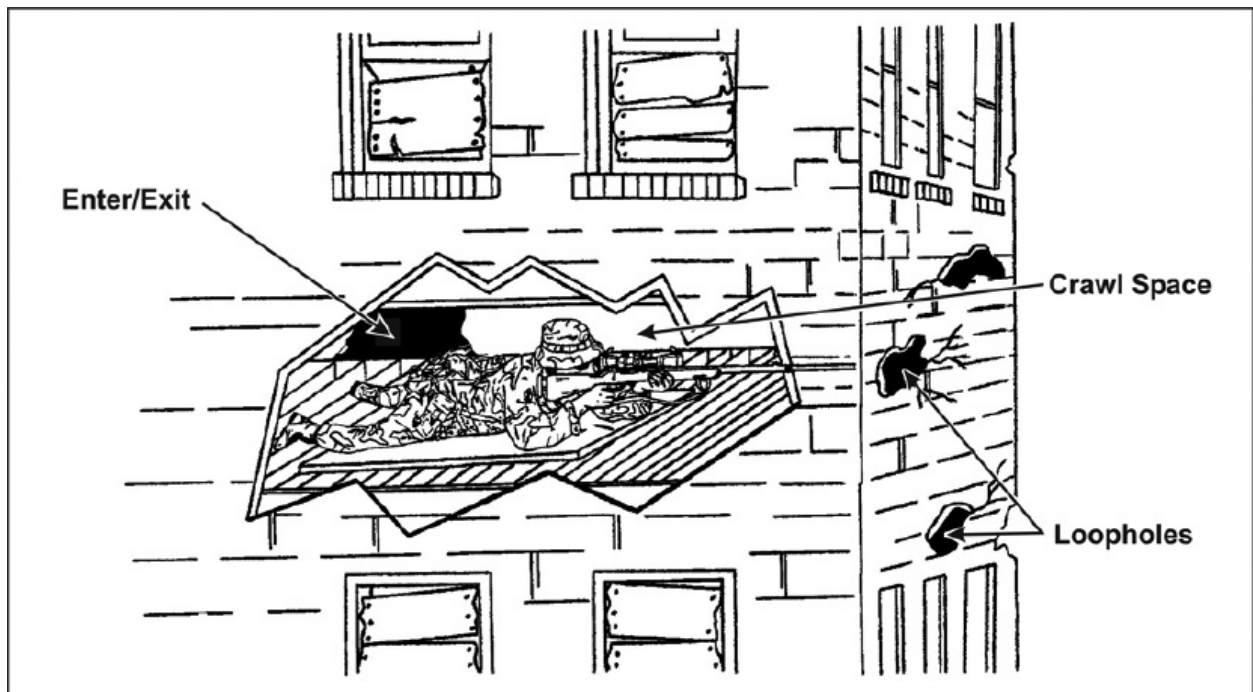

Figure 6-3. Crawl space hide
- *Crawl Space Hide.* The sniper team builds this position into the space between floors in multistory buildings (Figure 6-3). Loopholes are difficult to construct, but a damaged building helps considerably. Escape routes can be holes knocked into the floor or ceiling. Carpet or furniture placed over escape holes or replaced ceiling tiles will conceal them until needed.